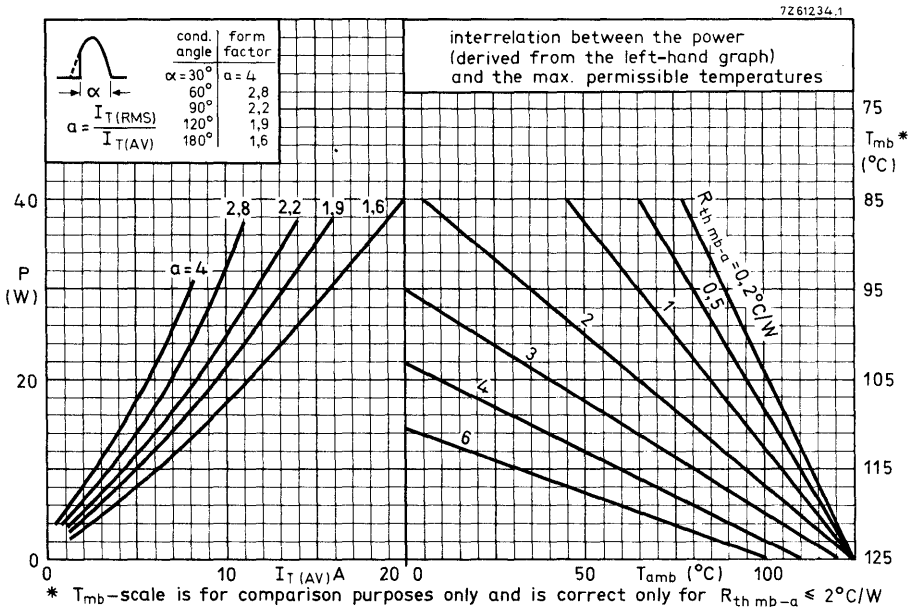
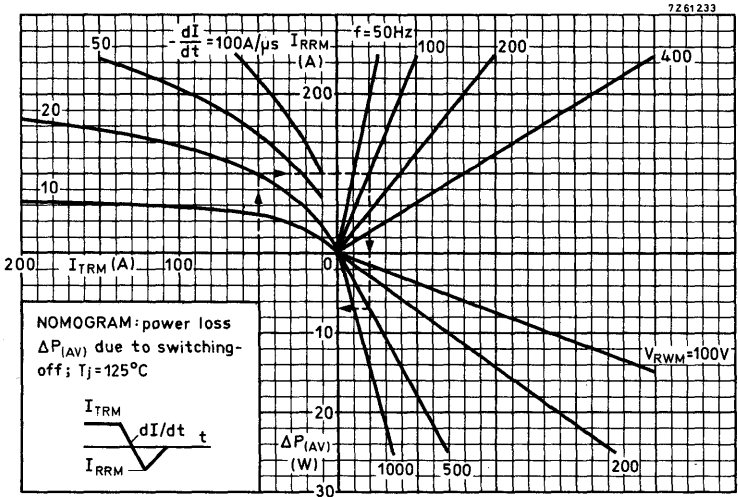

Fig. 3.
Fig. 9.
* To ensure thermal stability: $R_{th j-a} < 1,5$ °C/W (d.c. blocking) or < 3 °C/W (a.c.). For smaller heatsinks T_{jmax} should be derated. For a.c. see Fig. 3.
For applications in which the thyristor is forced to switch from an on-state current I_{TRM} to a high reverse voltage at a high commutation rate ($-di_T/dt$), consult Fig. 9 (nomogram) to find the increase in total average power. This increase must be added to the loss from the curves in Fig. 3.